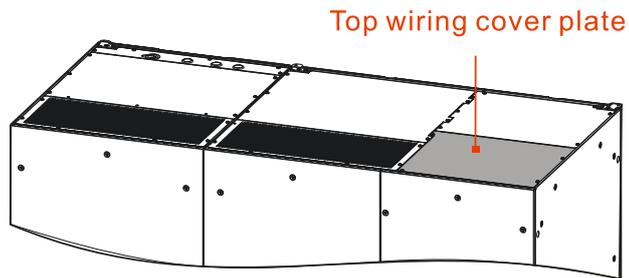

Figure3-36 Top wiring cover plate position of PS800KVA
- Step 2 Unscrew the fasten bolts of top wiring cover plate (as shown in Figure3-36) by screwdriver and take them down.